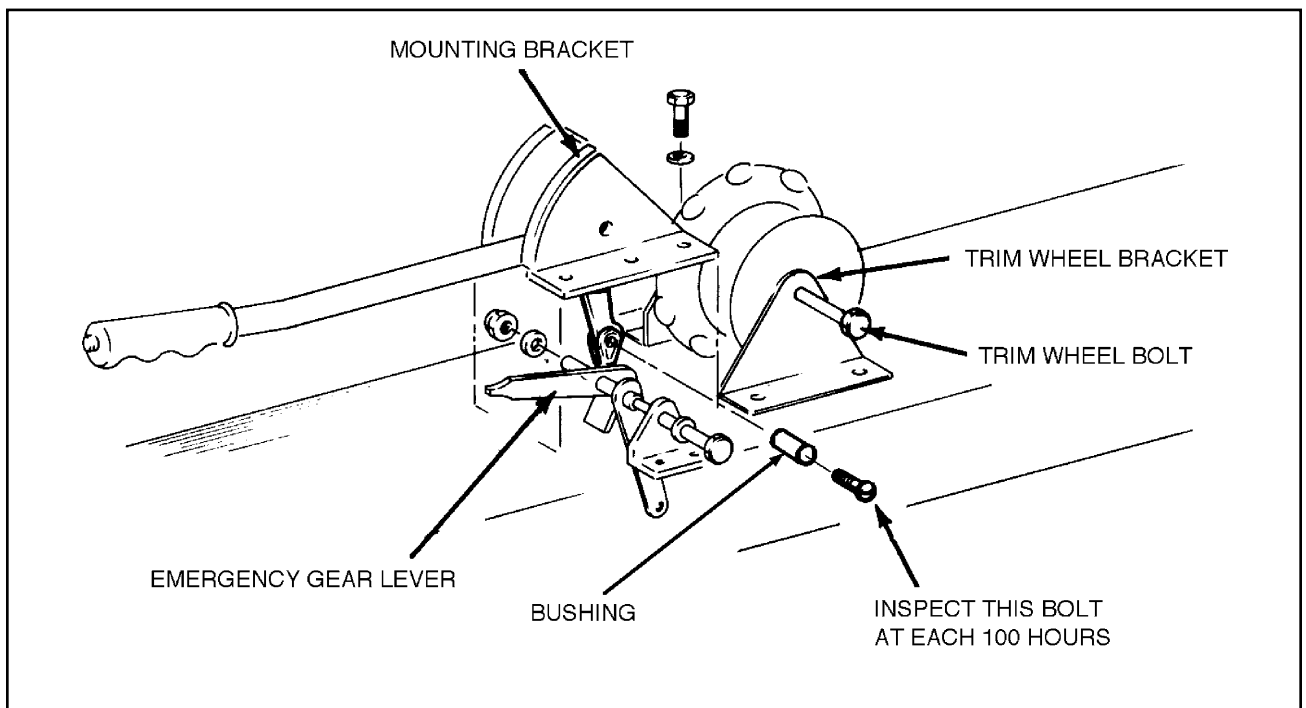

Figure 3-9. Flap Control Cable Attachment Bolt Inspection (Typical)
### (12) FLAP CONTROL CABLE ATTACHMENT BOLT INSPECTION. (See Figure 3-9.)